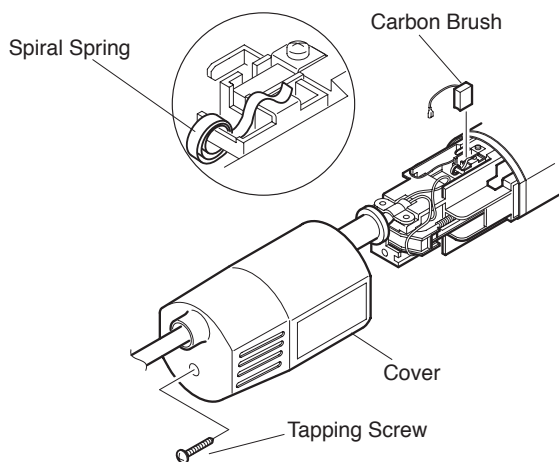

Fig.19
- (1) Loosen the Pan Head Tapping Screw and remove the Cover. (Fig.19)